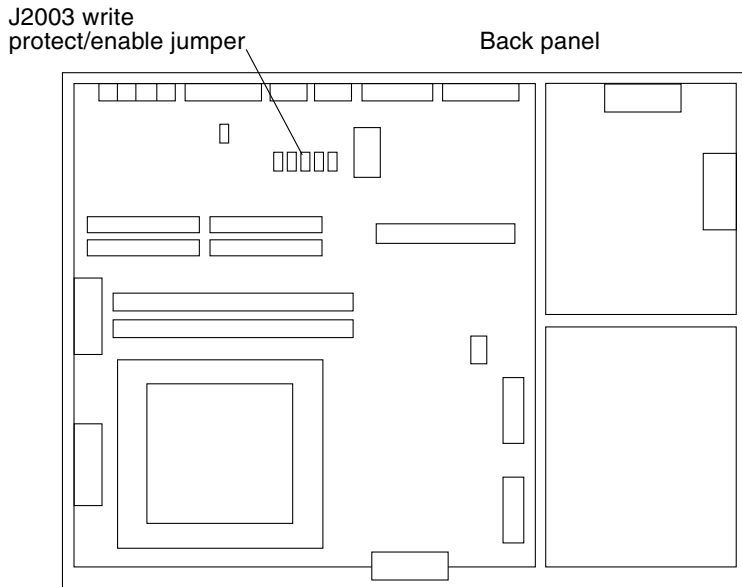

FIGURE 4-2 Sun Ultra 2 System Write-Protect/Enable Jumper Location on Motherboard
- See FIGURE 4-2 if you have a Sun Ultra 2 system.